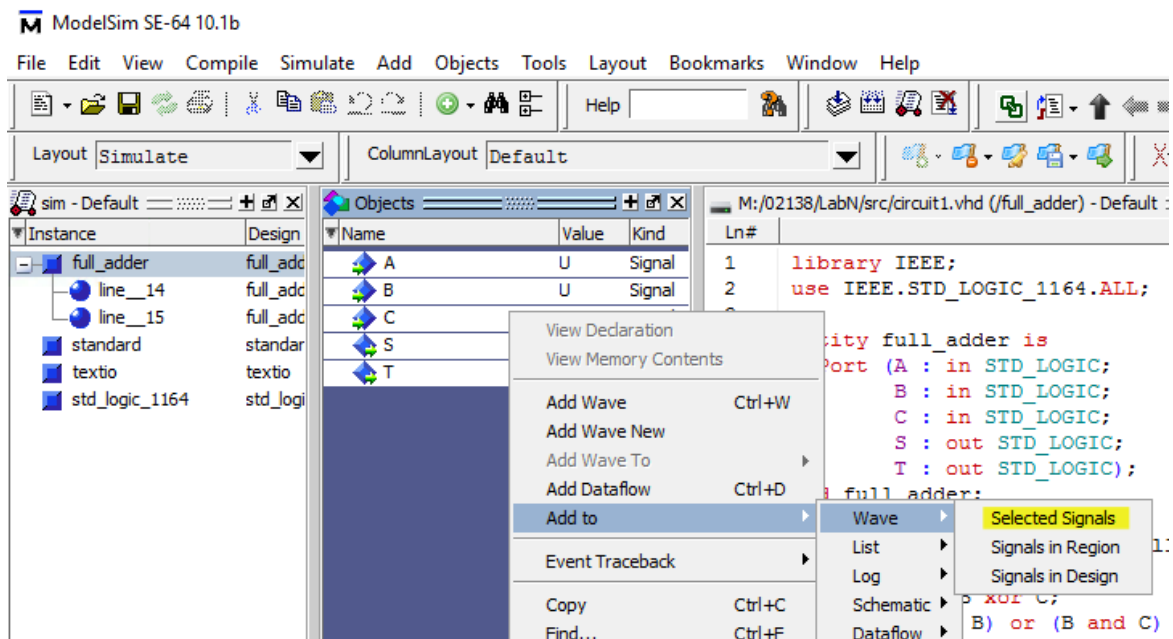

Figure 10. Add the relevant signals to the wave window.
- When the simulation starts, new windows appear on the screen. In the “sim” window we can see the hierarchy of the component we are trying to simulate. In the object window we can see the signals visible at the current level of hierarchy. Select the signals in the Objects window (by clicking on them while holding the CTRL key pressed, alternatively you can select the first signal, then hold the SHIFT key pressed while clicking on the last signal). Next, right click somewhere inside the “objects” window and select “Add-> To wave -> Selected signals” from the popup menu (as shown in Figure 10). At this point you will see the signals being added to the wave window.